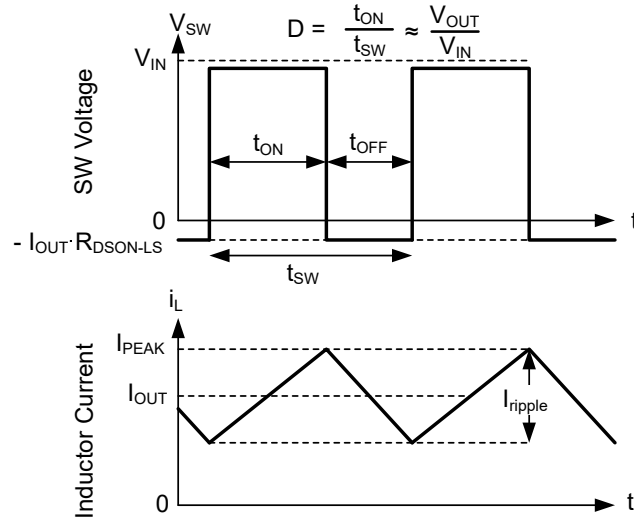

Figure 8-13. SW Voltage and Inductor Current Waveforms in Continuous Conduction Mode (CCM)
The following operating description of the device refers to Section 8.2 and to the waveforms in Figure 8-13. In CCM, the device supplies a regulated output voltage by turning on the internal high-side (HS) and low-side (LS) switches with varying duty cycle (D). During the HS switch on time, the SW pin voltage, V_{SW} , swings up to approximately V_{IN} , and the inductor current, i_L , increases with a linear slope. The HS switch is turned off by the control logic. During the HS switch off time, t_{OFF} , the LS switch is turned on. Inductor current discharges through the LS switch, which forces the V_{SW} to swing below ground by the voltage drop across the LS switch. The converter loop adjusts the duty cycle to maintain a constant output voltage. D is defined by the on time of the HS switch over the switching period: